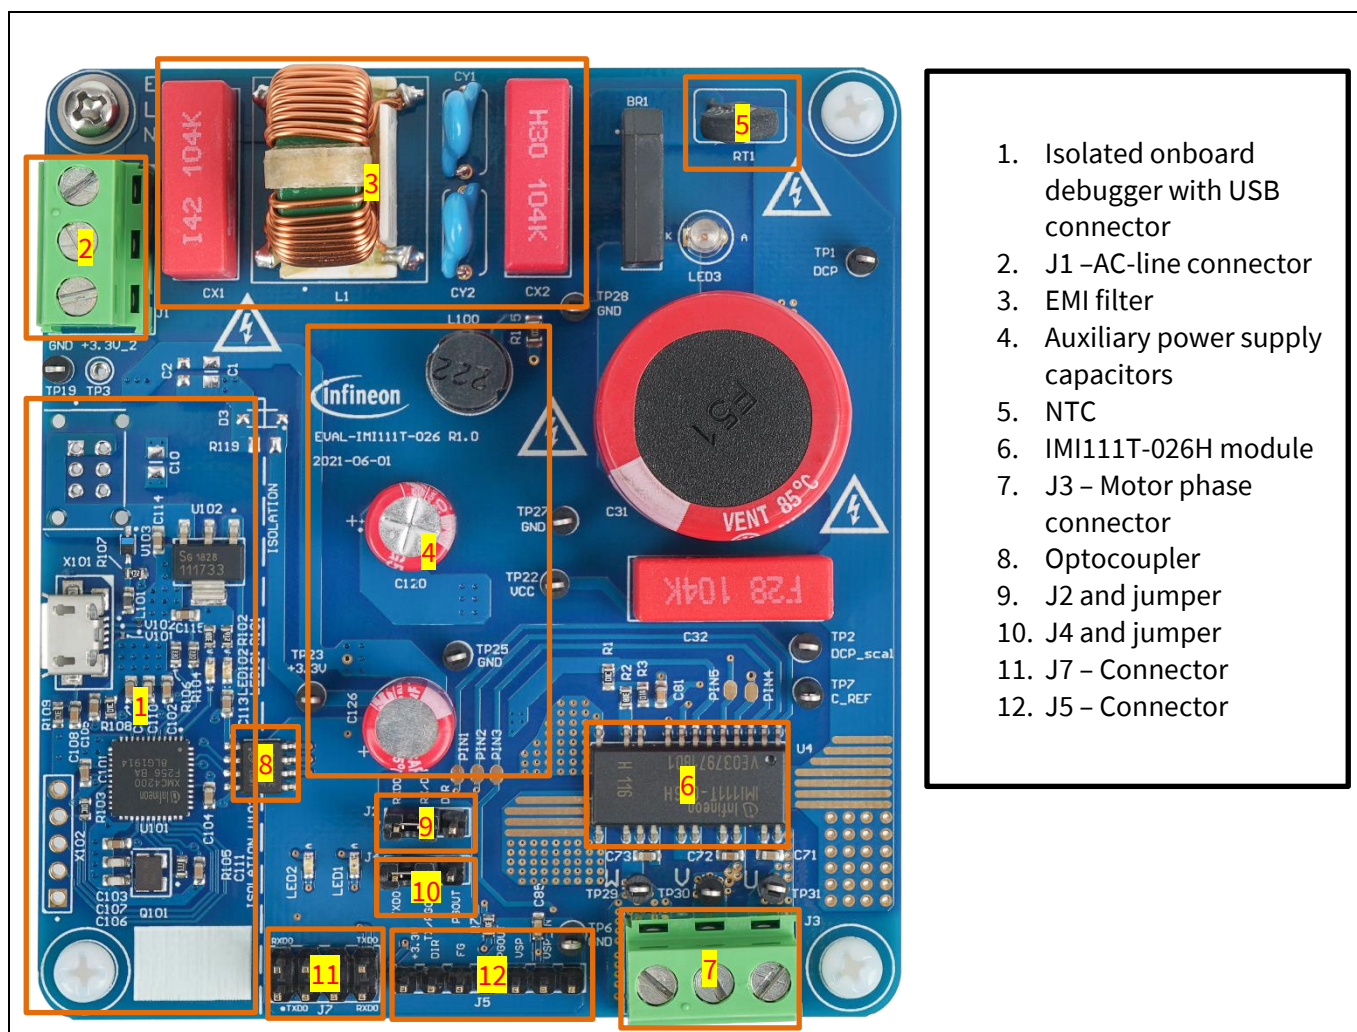

Figure 2 Functional group on the top side of EVAL-IMI111T
Figure 2 shows the functional groups on the top side of the EVAL-IMI111T-026 evaluation board. EVAL-IMI111T-046 is similar to EVAL-IMI111T-026, except item 6 is the IMI111T-046H module.